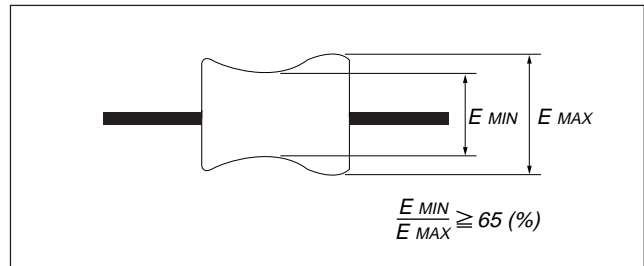

Fig. 5-10.
- 2) During step 1, confirm that the minimum amplitude ( $E_{MIN}$ ) is 65% or more of the maximum amplitude ( $E_{MAX}$ ) of the RF waveform. (Refer to Fig. 5-10)